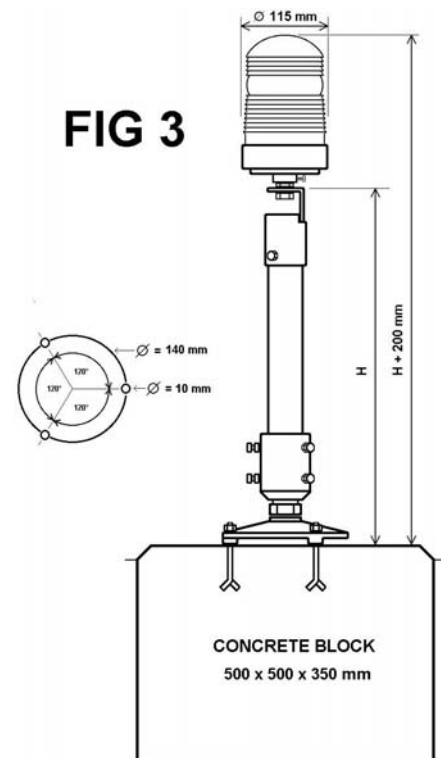

FIG 3
- Up to 1.8 m on a Pole with Frangible Coupling (Fig 3).